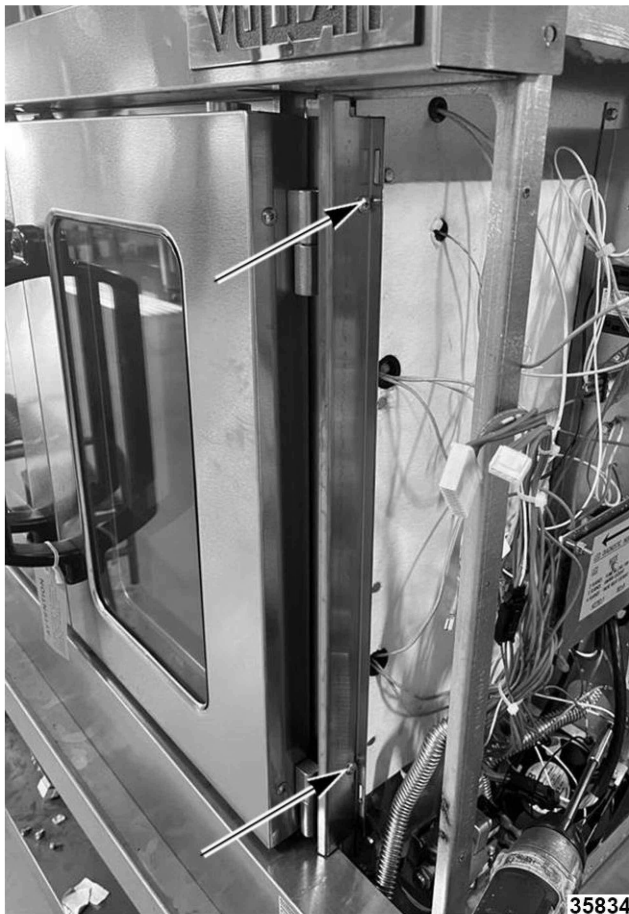

Fig. 36
3. Remove panel trim (Fig. 36).